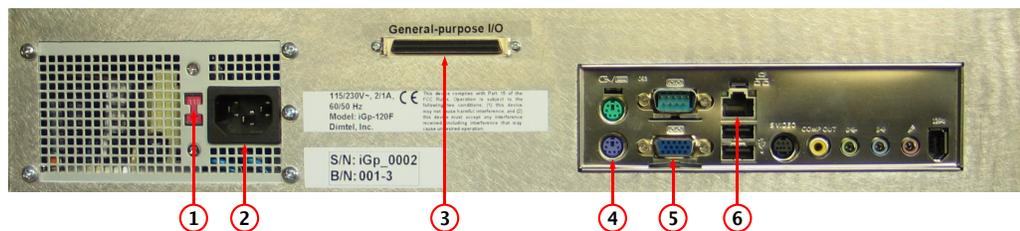

Figure 3: Rear panel features
**WARNING: Before connecting power to the unit make sure the voltage selection switch (Fig. 3, item 1) is in the correct position (115 or 230 V).**
1. Configure voltage selection switch (Fig. 3, item 1). Mains supply requirements for the iGp-5120F are listed in Table 9;
7. Connect a PS/2 keyboard (Fig. 3, item 4);
8. Connect a video monitor (Fig. 3, item 5);
Setup program is included in the **IOC** for configuring the important features of the iGp-5120F. The program can be executed locally or remotely. For local execution one must first connect a keyboard (Fig. 3, item 4) and a video monitor (Fig. 3, item 5) to the system. For remote setup, use **ssh** after system bootup to establish connection. In both setup methods the user must login as **root** (initial password is supplied with the system). If the newly received iGp-5120F must be configured remotely (when, for example, a keyboard or a monitor is not available), such configuration can be performed using a dedicated network. Set up a network consisting of the iGp-5120F, a network hub or a switch, and a remote computer. The iGp-5120F is delivered with the following network configuration:
- Make sure no cable is connected to the general-purpose digital **I/O** port (Fig. 3, item 3);